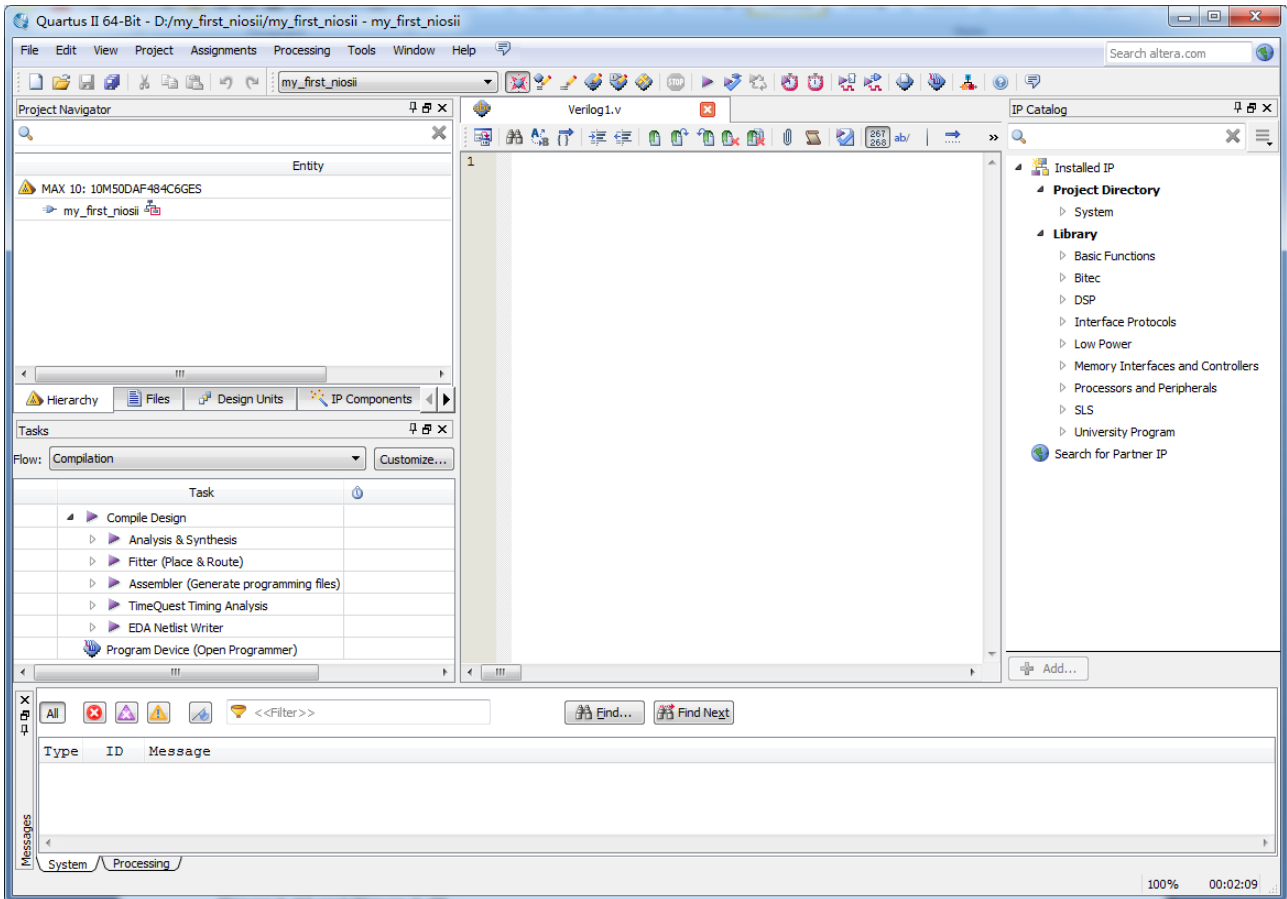

Figure 1-37 A blank Verilog HDL file
33. Select **Verilog HDL File** and click **OK** to finish creating a blank .v file, as shown in **Figure 1-37**.